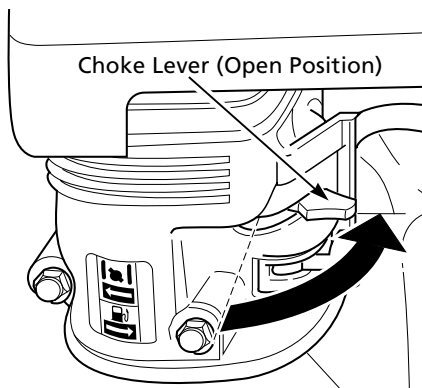
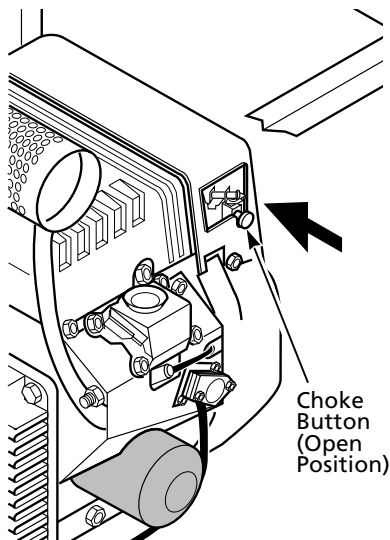

Figure 28 – Choke Lever Opened
Figure 29– Choke Lever Opened (Model 3LW64A Only)
5. As engine warms up, slowly move choke lever fully to the right (See Figure 28). This opens the choke. On Model 3LW64A, the choke will automatically open (See Figure 29).